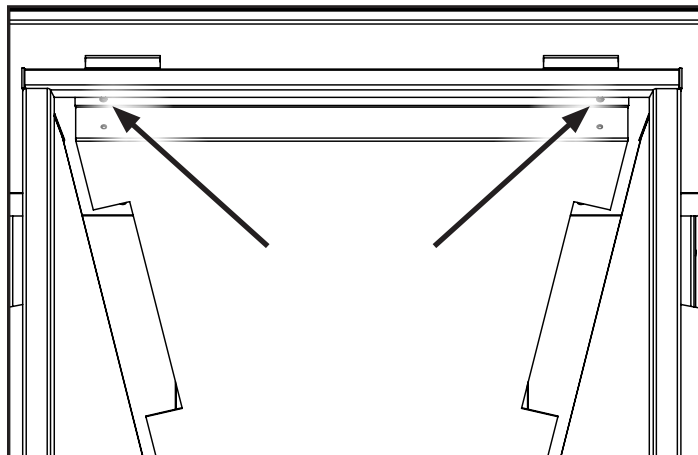

Figure 60. Baffle Screws.
2. Remove the firebox baffle by unscrewing the two screws indicated in Figure 60 using a T20 screwdriver. Lower the front of the baffle down and then lift it out of the two locating screws at the rear of the firebox.